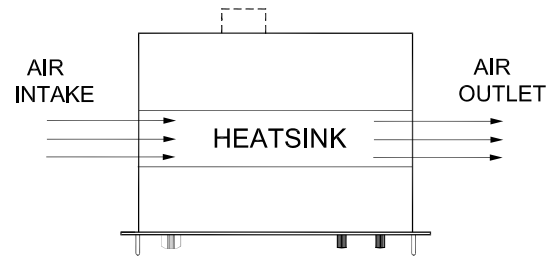

fig. 1 - 1
- The internal construction of the power supply is such that no dust will reach the sensitive control circuitry, only the heat sinks in a tunnel will be cooled by forced air (see fig. 1 - 1)